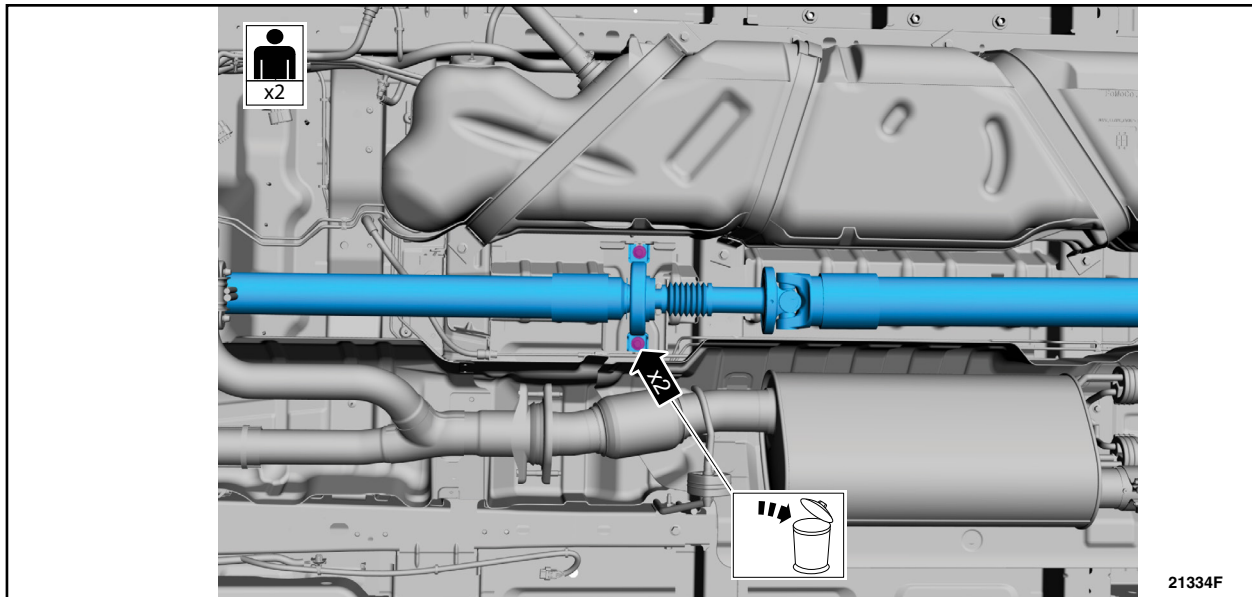
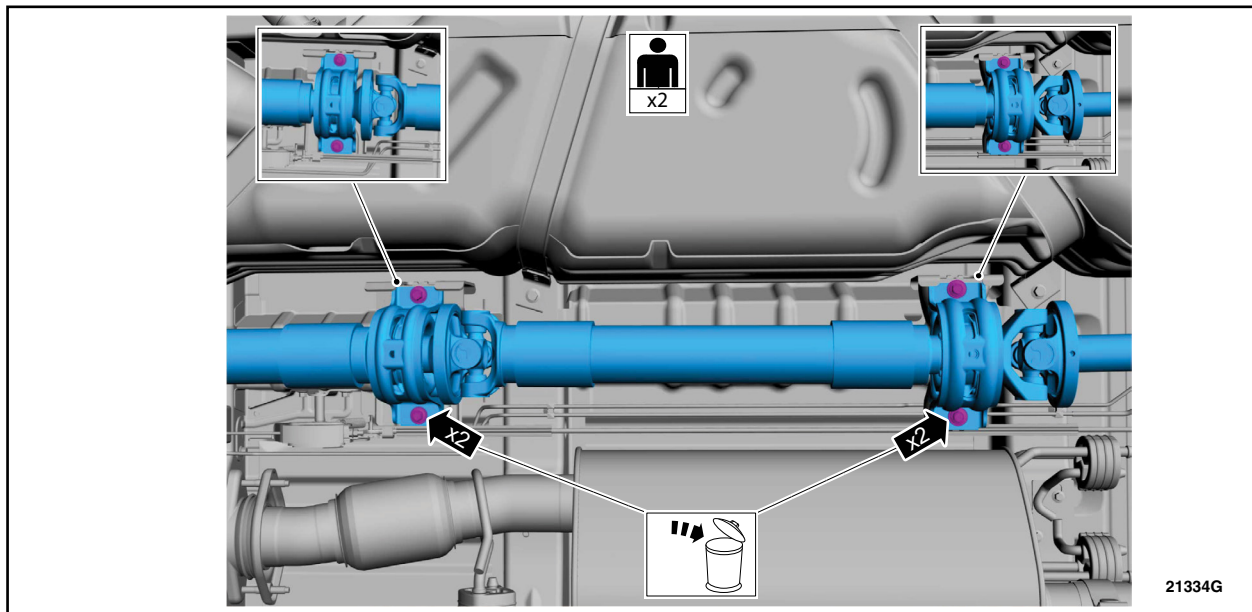

FIGURE 6
FIGURE 7
17. Remove and discard the driveshaft center bearing bolts and remove the driveshaft. This will require pulling the driveshaft rearward to clear the front safety strap/hoop. For Medium Wheelbase see Figure 6. For Long Wheelbase see Figure 7.